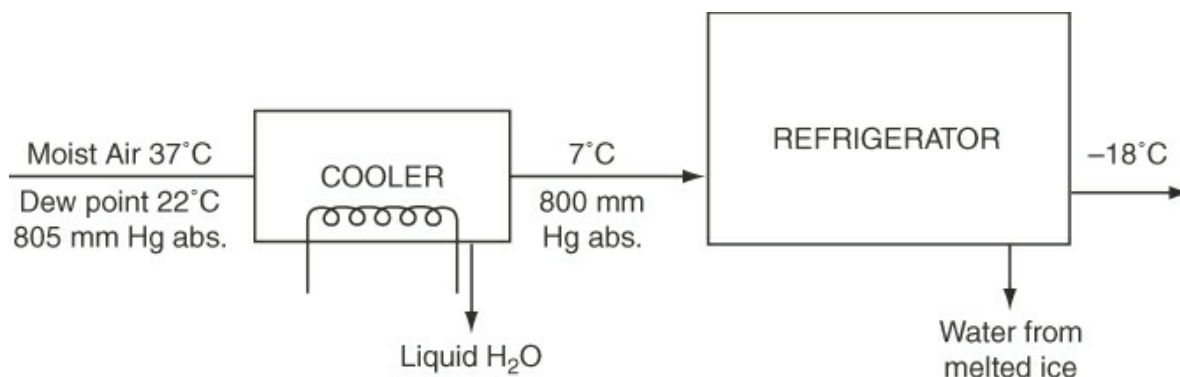

Figure P7.4.18
- ***7.4.18 To prevent excessive ice formation on the cooling coils in a refrigerator room, moist air is partially dehydrated and cooled before passing it through the room (see Figure P7.4.18). The moist air from the cooler is passed into the refrigerator room at the rate of 20,000 ft³/24 hr measured at the entrance temperature and pressure. At the end of 30 days, the refrigerator room must be allowed to warm in order to remove the ice from the coils. How many pounds of water are removed from the refrigerator room when the ice on the coils in it melts?